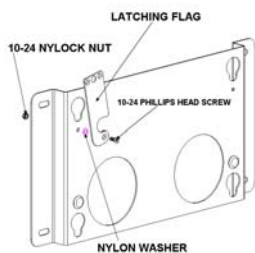

Figure 2
1. Using 10-24 Phillips head screws, nylon washers, and Nylock nuts (See Figure 2), attach latching flags to mount. Tighten until friction will hold the flags in place.